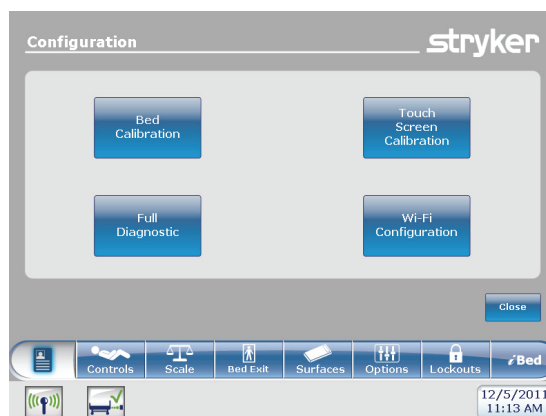

Figure 4 – Configuration menu
6. Release the **Main Menu** button and the configuration screen will display (Figure 4).
The following configuration options are available in the configuration menu (Figure 4):